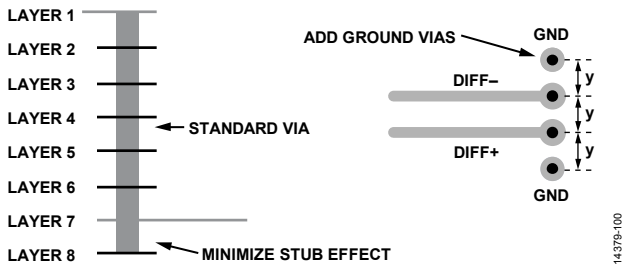

Figure 175. Minimizing Stub Effect and Adding Ground Vias for Differential Stripline Traces
- If using standard vias, use the maximum via length to minimize the stub size. For example, on an 8-layer board, use Layer 7 for the stripline pair (see Figure 175).
- For each via pair, place a pair of ground vias adjacent to them to minimize the impedance discontinuity (see Figure 175).